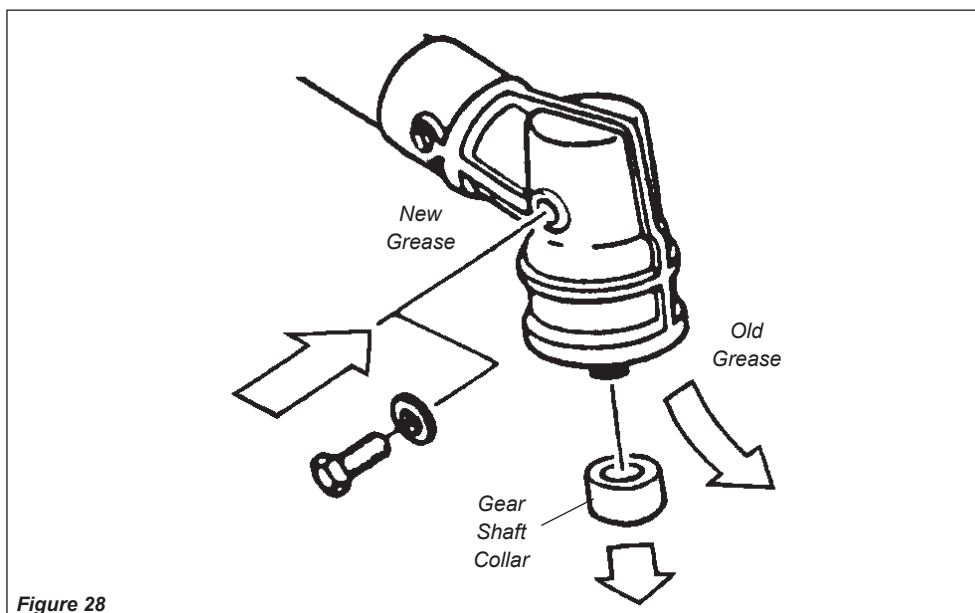

Figure 28
- Remove the cutting attachment, cutting attachment holder and gear shaft collar. Remove the filler plug from the side of the gear case and press new grease into the gear case until old grease is pushed out. Use only lithium-base grease such as Shindaiwa Gear Case Lubricant or equivalent. See Figure 28.